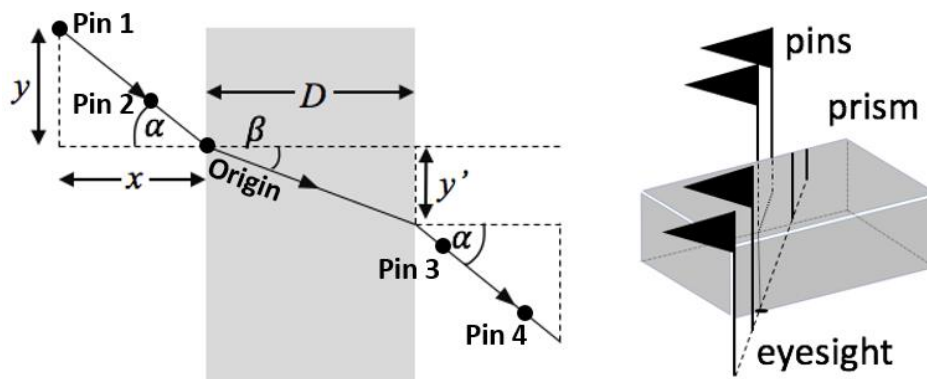

Figure 4.2
#### 4. Procedure (see Figure 4.2)
3. Put pins number 3 and 4 onto the graph paper. All pins must stand above the same line when observing through the prism (but not necessary to be above the same line when observing through the air; see Figure 4.2 right).
6. Plot the values of  $\sin \alpha$  against  $\sin \beta$  and try to calculate refractive index of the prism from equation (1).